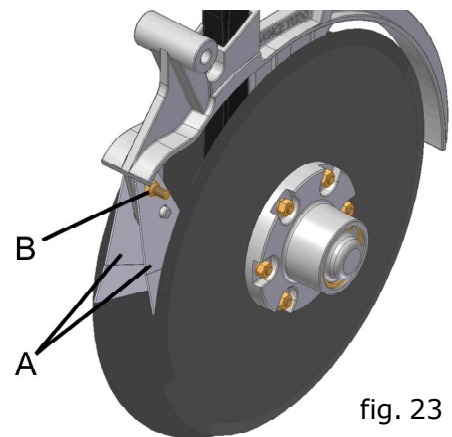

fig. 23
Periodically accomplish the adjustment of the scrapers (A) (fig. 23) from the defased double discs. To make the tuning of the scrapers, tight the bolt and nut (B). Adjust of such a way that be maintained the efficiency of cleaning. Not to cause excessive wear in the internal scrapers (A); does not press them in surplus.